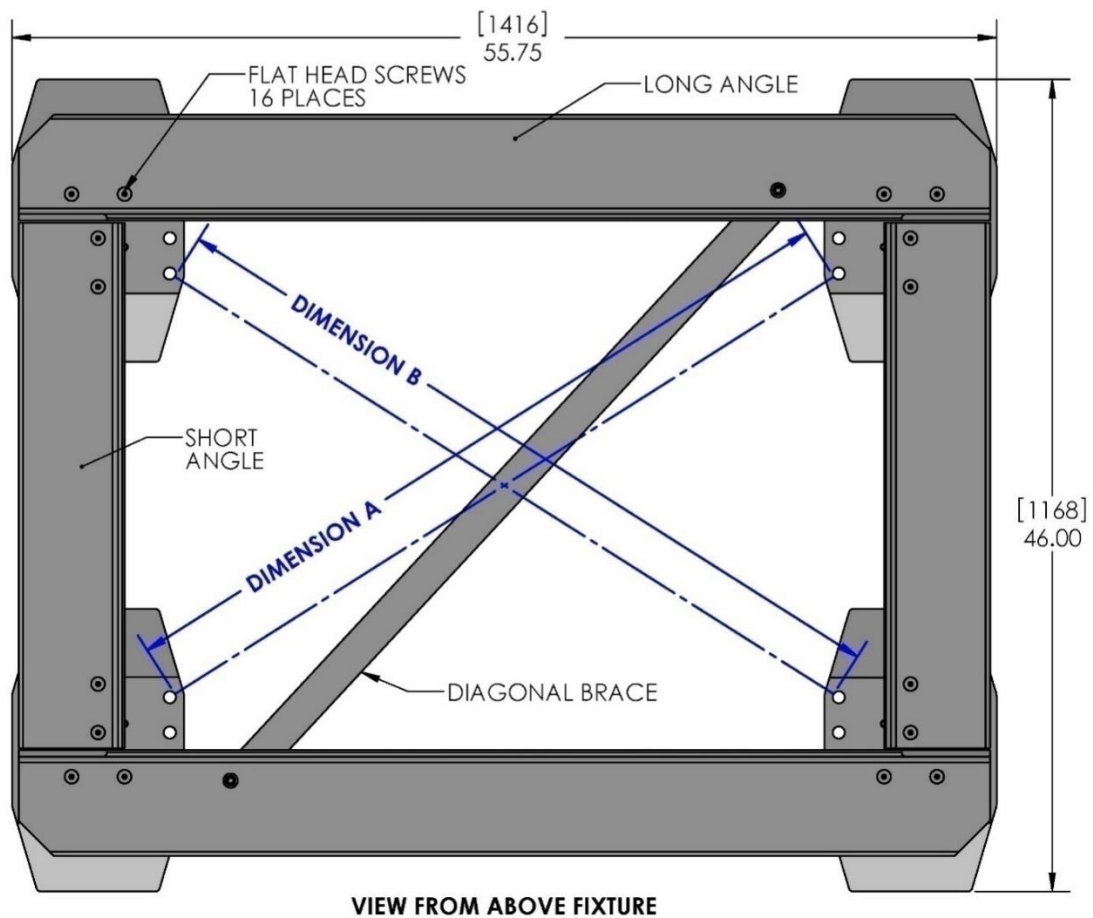
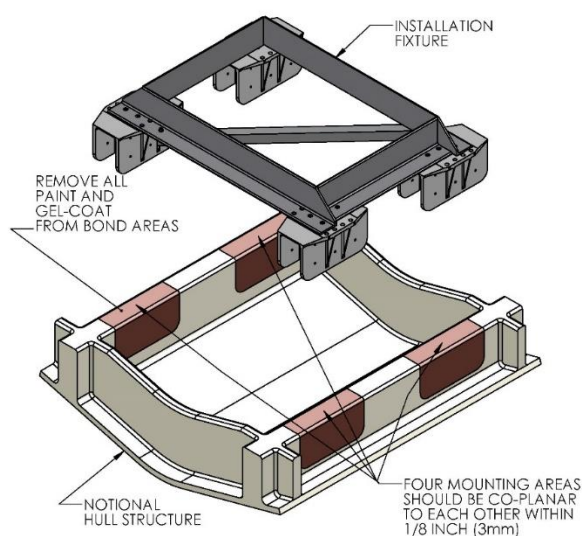

FIGURE 8 – NOTICE FOR CHECKING SQUARE OF ASSEMBLY
FIGURE 10 - INSTALLING FIXTURE ON HULL
- 1) Check that the screws fastening the saddles to the installation fixture are tight (Fig 8). Position installation fixture (Fig 10) on hull girders noting recommended clearances for maintenance from Figure 2.
- 5) Remove any paint or gel-coat from bond surfaces so that adhesive will bond directly to laminate fibers and resin as shown in Figure 10.